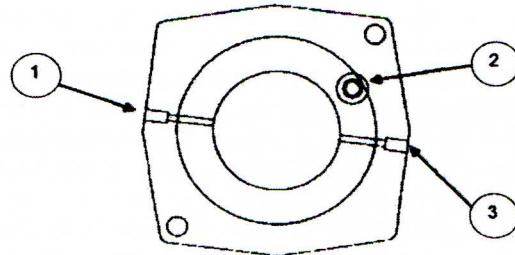

Figure 3
The inboard bearing cover is supplied with a zerk fitting between the 9 and 10 o'clock position and a grease relief port located between the 3 and 4 o'clock position. See Figure 3. This is designed to create a grease barrier between the inboard lip seals. It should be greased prior to washdown and at least once a week with five (5) shots of general purpose or water pump grease. To properly grease the lip seals, first remove the grease relief port plug (3). This allows for the removal of old grease. Apply grease at the zerk fitting (1). Old grease from the seal will be forced out of the grease relief port. Replace the grease relief port plug. Bearing lubrication plug (2) is included in the drawing for clarity.